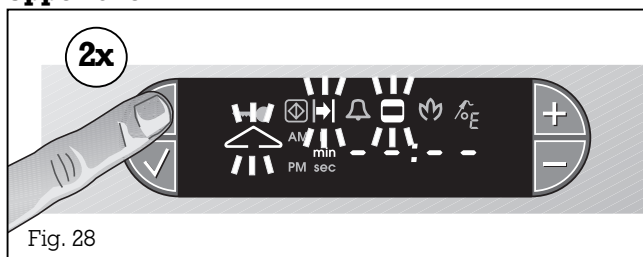

Fig. 28
- Press the ⌚ (Timer) key twice (upper oven) or four times (lower oven). The ⏻ (End) symbol, the ⏲ (Cooking Time) symbol and the ⏶ (upper oven) or the ⏷ (lower oven) symbol flash on the display. Dashes appear on the display (i.e. no value programmed) (Fig. 28 and 29).